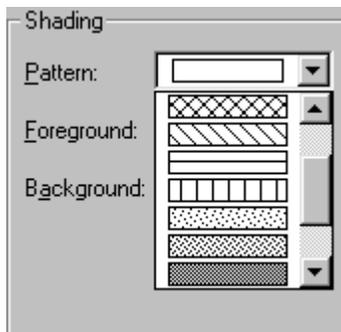

Figure 14.3 Pattern Selection Box
- ◆ **Pattern:** Select one of 13 shading patterns to assign to the box background. Figure 14.3 shows some of the shading options available.
2. Open the Pattern list box (see Figure 14.3). Select a pattern from those displayed.